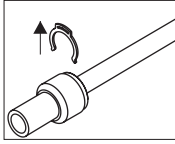

Fig. 1
- 1) Remove safety clip from the quick connector (if applicable) (Fig. 1).